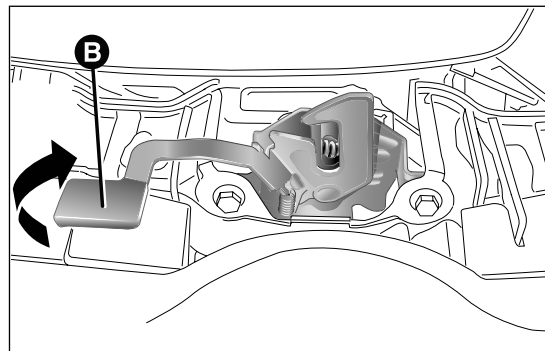

fig. 62
- ☐ move lever B fig. 62 to the left as shown in the figure;